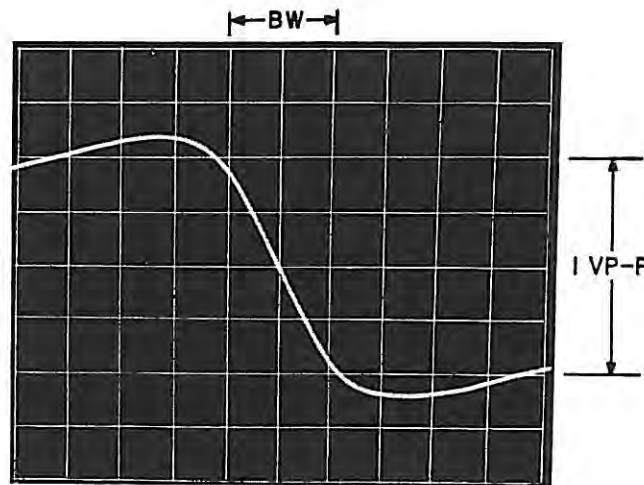

Figure S-5. FM Demodulator "S" Curve
4. Adjust the oscilloscope and sweep generator controls to display an "S" curve as illustrated in Figure S-5.